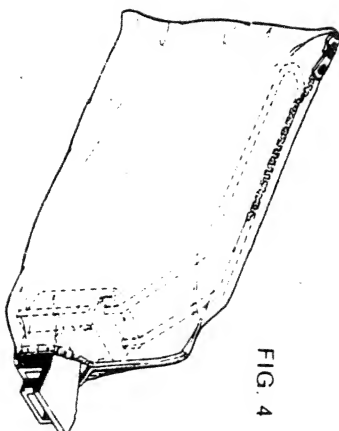

FIG. 4
2. With wire frame attached, insert assembly into dust collecting bag so the plastic adapter protrudes through the opening in the end of the bag, and the wire frame is positioned at the zippered opening (Fig. 4)